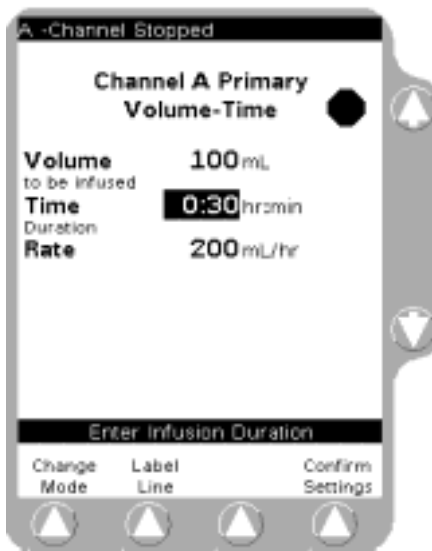

Figure 5-28 Confirm Settings
7. Press the **Confirm Settings** soft key, then press the **START** key to begin the infusion (Figure 5-28).